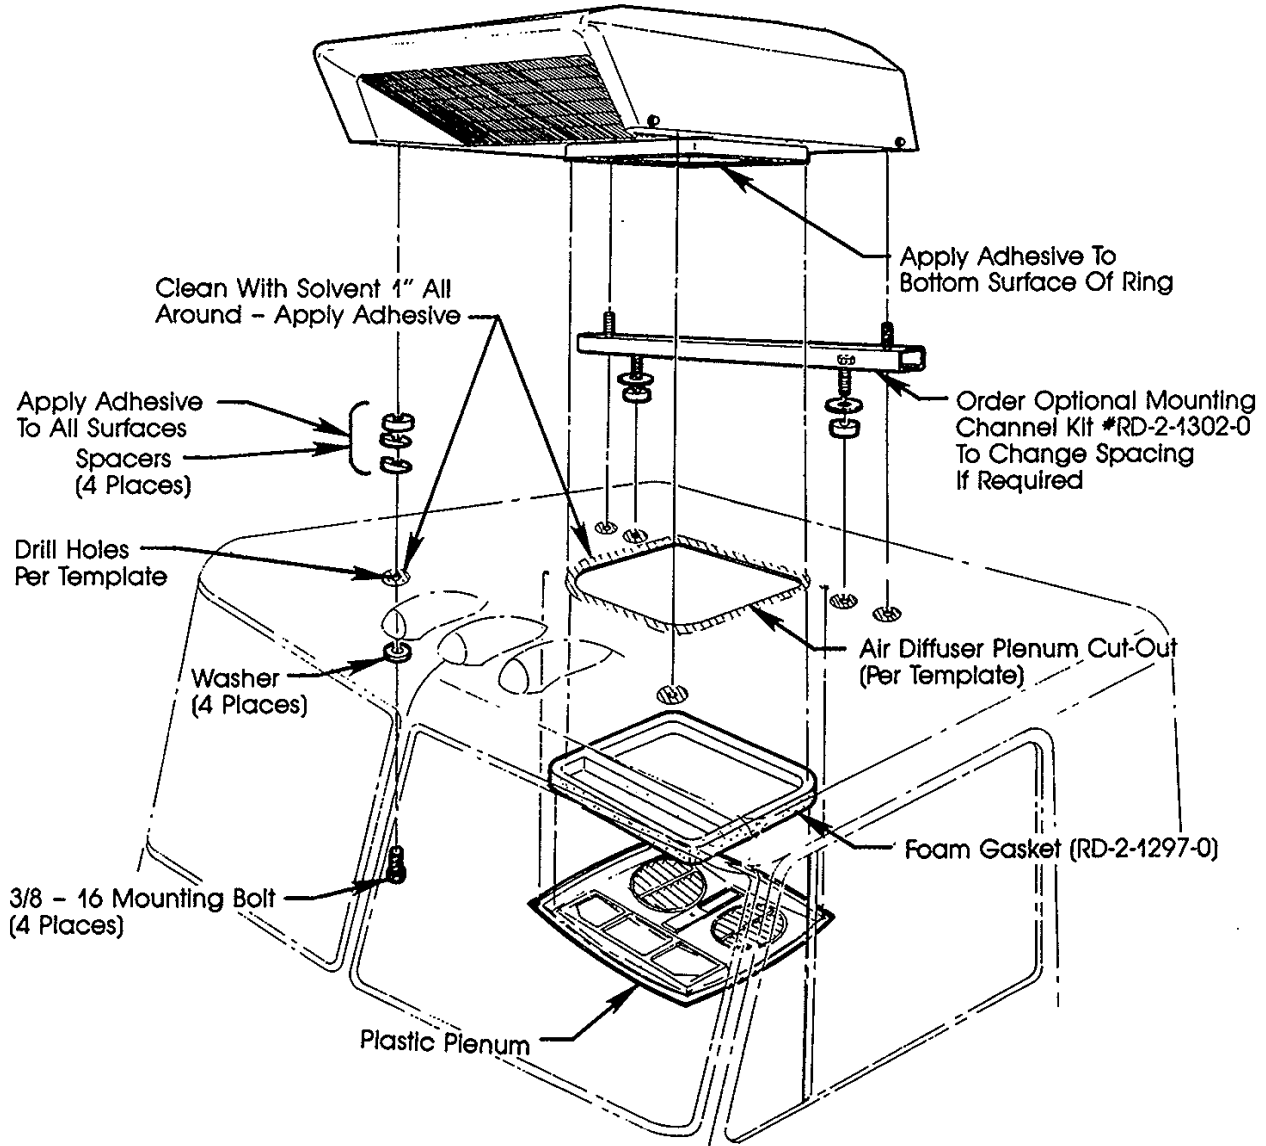

FIGURE 1
- g. A Mounting Channel Kit No. RD-2-1302-0 is available if it is necessary to reduce the bolt spacing width. The minimum recommended spacing width is 14 inches to ensure proper support. The channels bolt directly to the unit and either one large or two tapered rubber spacers are used to space the unit away from the roof. See Figures 1 and 2.
8. Apply a thin film of adhesive 1 "wide around upper surface of roof cutout and mounting holes. Apply sealer to the face of the sealing ring on the unit, See Figure 1. Make sure that the drain tube is located within the sealing ring. A wire or string may be wrapped around sealing ring to keep it in place if necessary.
1. Cut hose as above in Fig. 1. Lubricate the inside of the fitting ferrule with refrigerant oil. (It's important to form a seal.)